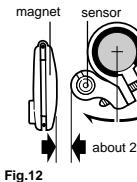

Fig.12
3. Align the magnet's center and the sensor's marking line (fig. 11), and make sure of 2mm clearance between the magnet and sensor (fig. 12). Then tighten the screw securely. Cut the excess of the band-B with a nipper or the like.